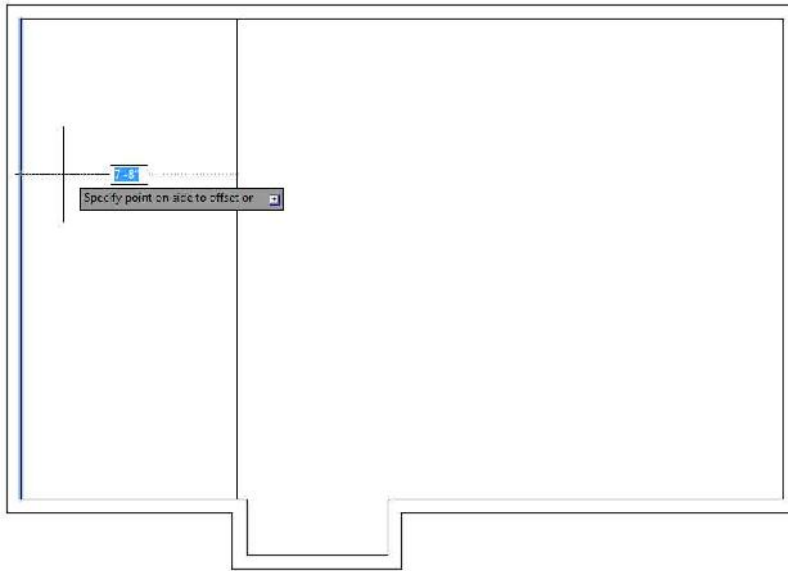

FIGURE 4.13 : Selecting the wall line to offset
4. Click the inside line of the left exterior wall (see Figure 4.13).